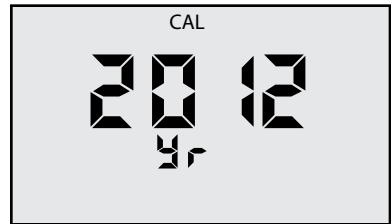

Figure 12
3. Press  to initiate. **CAL** will be displayed along with the YEAR, (see Figure 12).